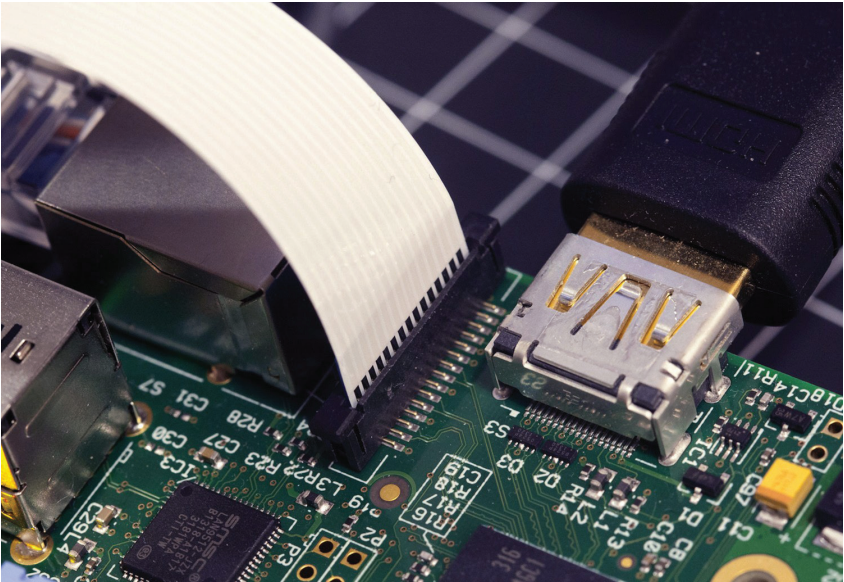

Figure 9-5. After placing the ribbon cable into the camera serial interface connector and locking it down, you may still see metal contacts on the ribbon cable.
3. Hold the ribbon cable into the CSI connector and press the moving part of the CSI connector down to lock and hold the ribbon cable in place. You'll still see part of the metal contacts on the ribbon cable.(See Figure 9-5.)